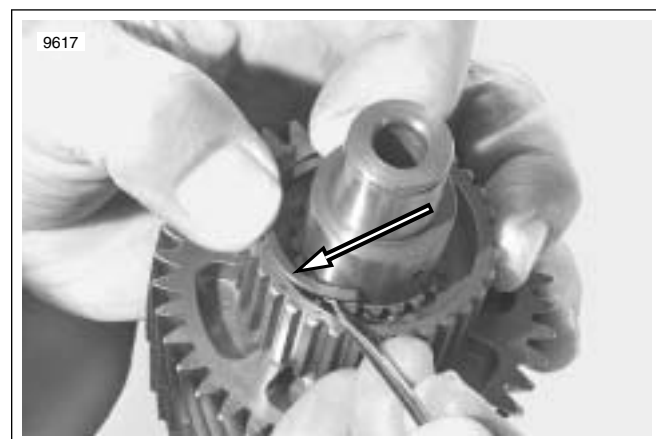

Figure 7-27. Half Moon Keepers
12. See Figure 7-27. Remove the half moon keepers.